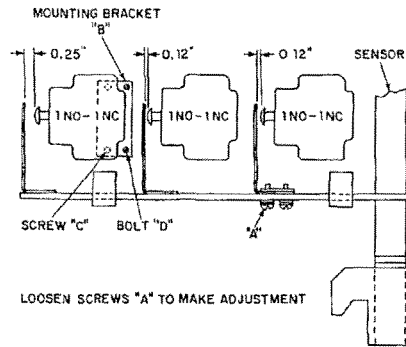

Fig. 41. Adjustments of interlock assembly
5. After sensor bar has been properly located, adjust the gap between the interlock plungers and the depressor brackets as shown in Fig. 41. Slots are provided in the depressor bars to permit adjustment.